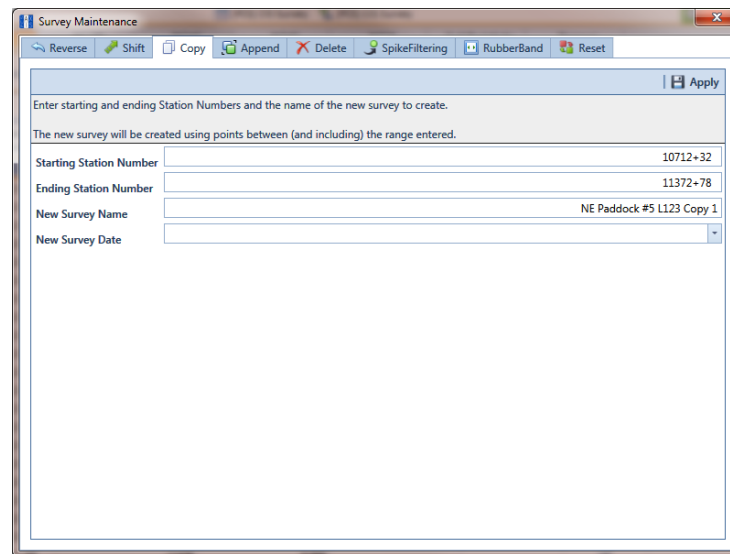

Figure 7-83. Copy to New Survey
- 5 Click  **Survey Maintenance** to open the *Survey Maintenance* dialog box. Then click  **Copy** (Figure 7-83).